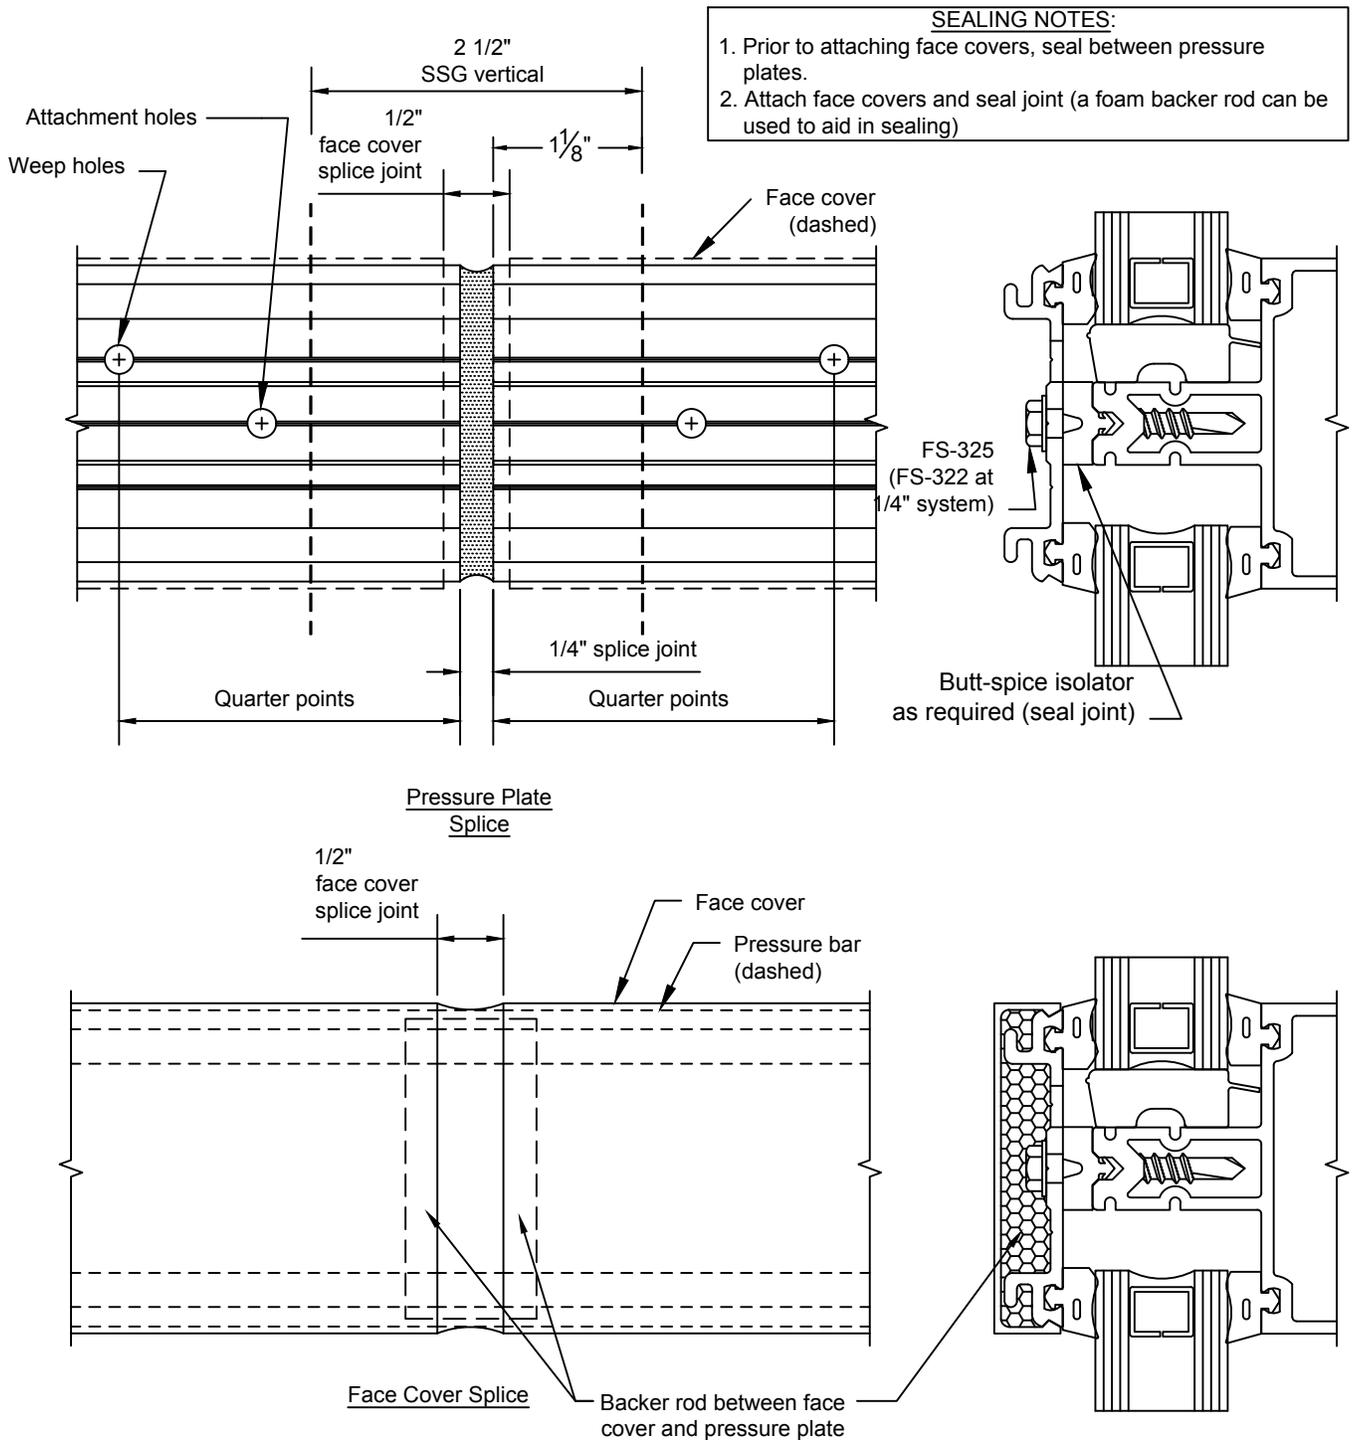

Figure 21
3.11 After removing horizontal temporary retainers, center horizontal pressure plates in opening, leaving 1/8" gap on each end. Make sure that weep holes are on the top side of the pressure plate. **NOTE:** **Horizontal pressure plates and face covers run continuous over SSG mullions, not to exceed 3 lites in length. Apply face cap to continuous pressure plates only. Do not span face cap over discontinuous/separate pressure plates. SEE FIGURE 21, page 26 for splicing and sealing instructions.**